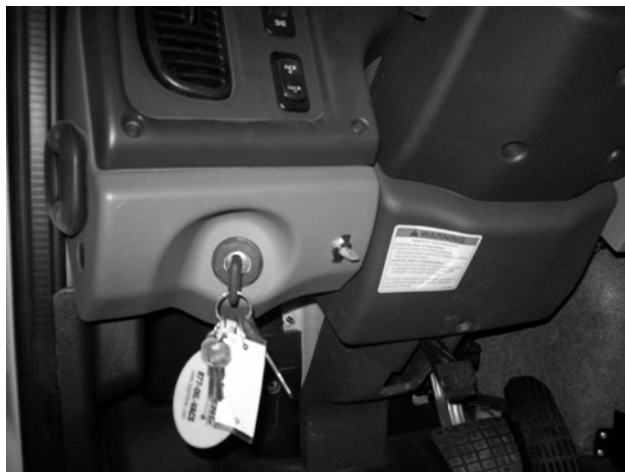

Figure 17- Toggle Switch
3. Turn heater on by moving the toggle switch upward to the on position. This switch is located directly above the truck's ignition switch. The toggle switch will illuminate when the heater is powered up. See Figure 17.